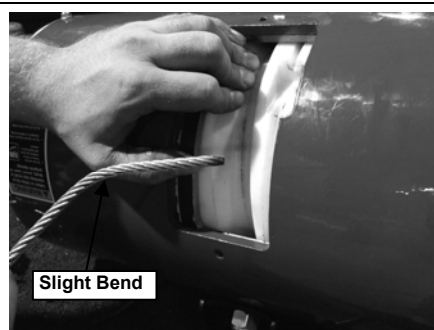

Figure 4-8
Step 11. Put a slight bend in the fused end of the new cable. (See Figure 4-8)